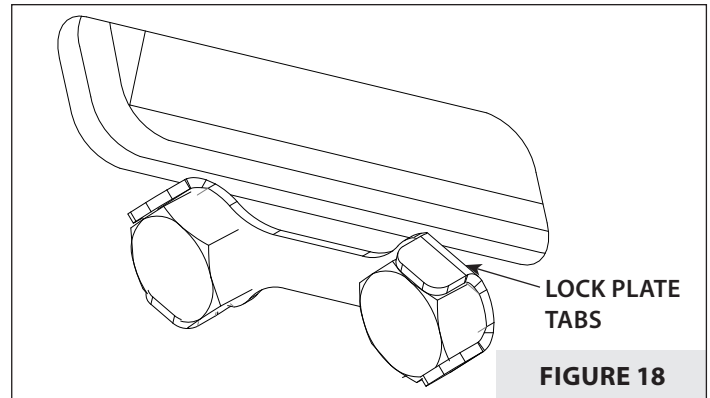

FIGURE 18
1. Remove the hammers by first bending the lock plate tabs down away from the hex head bolt securing the hammers. Remove the bolt. **SEE FIGURES 18 AND 19** (next page).
4. Bend the lock plate tabs up to secure the bolt and preventing rotation. The tabs should sit flat on a face of the bolt. **SEE FIGURE 18.**
5. Bend the lock plate tabs up to prevent bolt rotation. The tabs should sit flat on a face of the bolt. **SEE FIGURE 18.**